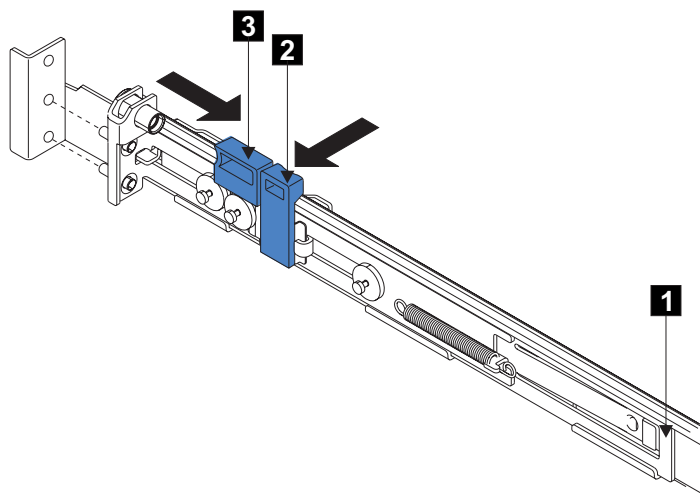

Figure 89. Opening the back latch-lock carrier assembly
5. Push the back rail bracket **1** (Figure 89) toward the front of the rail until it stops. The rail is now at its shortest adjustment.